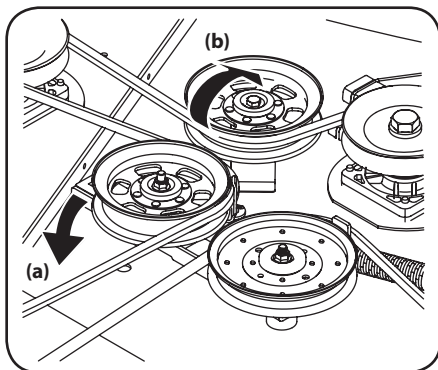

Figure 4-15
- b. Working from the middle of the tractor, pivot the idler bracket and movable idler pulley rearward away from the backside of the "V" belt (a) just far enough to lift the belt up and over the idler pulley (b). See Figure 4-15.